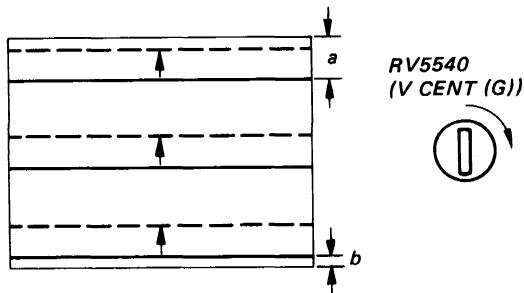

Fig. 3-12
- (11) If necessary, adjust RV5542 (H CENT (G)) finely.
- (12) Adjust RV5539 (V SIZE (G)) so that the vertical picture size is a little less than the screen size.
- (13) Adjust RV5540 (V CENT (G)) so that "a" is equal to "b" as shown in Fig. 3-12.